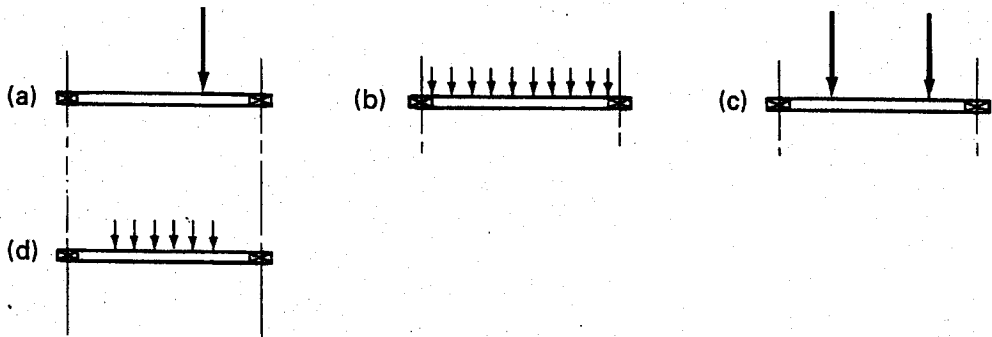

Figure 4a
- 4(a) Consider the shafts loaded as shown in Figure 4a. All four shafts are simply supported at their ends. For each of the cases, sketch the shear force and bending moment diagrams, and state whether or not they are statically determinate.